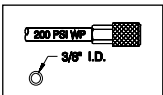

Fig.3
4. Connect the tool to an air compressor using a 3/8" I.D hose. Make sure the hose has a rated working pressure exceeding 200 PSI (13.8 bar) and a female quick coupler. (See Fig. 3)